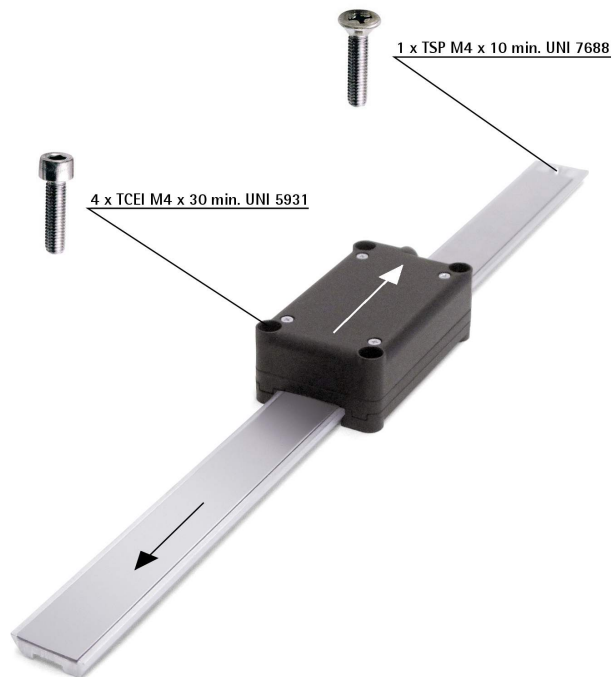

Figure 2
- connect Counting direction input to 0Vdc, if not used; to have count up information when the measuring system moves as shown in Figure 2 (see the arrows) = connect to 0Vdc; to have count up information when the measuring system moves in the direction opposite to the movement shown in Figure 2 (see the arrows) = connect to +Vdc;
### 3.3 Sensor (Figure 2)
### 3.4 Profile of the magnetic tape (Figure 2)
### 3.6 Standard counting direction (Figure 2)
The positive counting direction (count up information) is achieved when the sensor moves on the tape according to the white arrow shown in Figure 2; or, on the contrary, when the tape moves according to the black arrow shown in Figure 2. For further information see the "4.1.6 Counting direction input" section on page 14.
Let's suppose we are using the SMAG-GA-5-... model, it is paired with the MTAG-650-... profile. If you set the 0 along the path, starting from the 0 point, the output values will be from 0 towards the max. value (114,000, see the table below) when the measuring system moves according to the arrows shown in Figure 2; when the system moves back, the value immediately after 0 will be the max. number of information - 1 (131,071).
The **standard counting direction** is to be intended with sensor moving according to the white arrow in Figure 2; or with magnetic profile moving according to the black arrow in Figure 2. The counting direction circuit allows to reverse the counting direction. In other words it allows the count up when the sensor (or the profile) moves in reverse of the standard direction, i.e. in the direction opposite to the movement shown by the arrows in Figure 2. Connect
the Counting direction input to 0Vdc if not used. Connect the counting direction input to 0Vdc to have the count up information when the sensor moves as shown by the white arrow in Figure 2 (or when the profile moves as shown by the black arrow in Figure 2); connect the counting direction input to +Vdc to have the count up information when the sensor moves in reverse of the standard direction, i.e. in the direction opposite to the movement shown by the white arrow in Figure 2 (or when the profile moves in reverse of the standard direction, i.e. in the direction opposite to the movement shown by the black arrow in Figure 2).